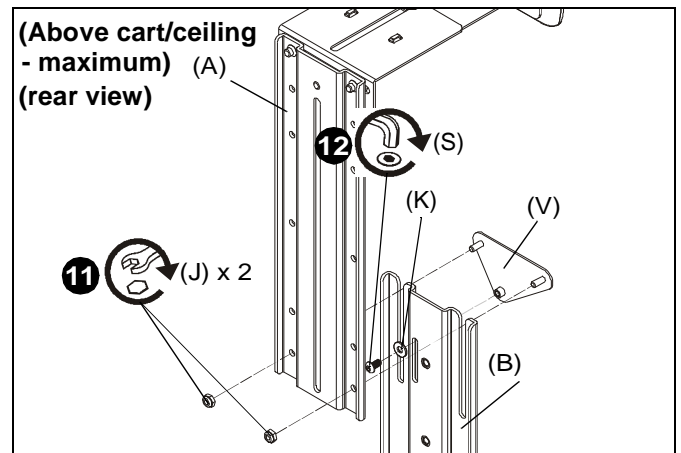

Figure 29
11. (For maximum extension) Use two #10-24 lock nuts (J) to secure upright bracket (A) to main bracket (B) and adapter plate (V). (See Figure 29)
12. (For maximum extension) Use #10-32 x 3/8" button head cap screw (S) and small spacer (K) to secure upright bracket (A) to adapter plate (V). (See Figure 29)